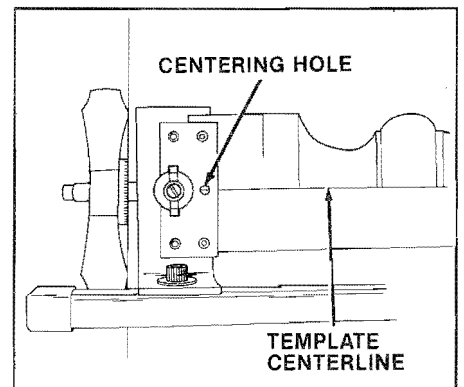

Figure 8. Align the template
2. Mount the template. Loosen the mounting screw (11) of the left-hand template support assembly. Insert the template between clamp (5) and bracket (9) of the right-hand template support assembly, then move the left-hand template support assembly to accept the other end of the template. Both ends of the template should butt up squarely against the spacers (6). Use the 5/16" Allen wrench to tighten the left-hand screw (11), keeping the top of the support bracket (9) parallel to the channel.
3. Align the template. Align the template holes with the centering hole in each template clamp (5). (See Figure 8.) To align the template easily and exactly, insert a 1/4" dowel through the centering hole in each clamp (5) to engage the template hole. Use the 5/32" Allen wrench to tighten the two rear setscrews (4), one in each template clamp.